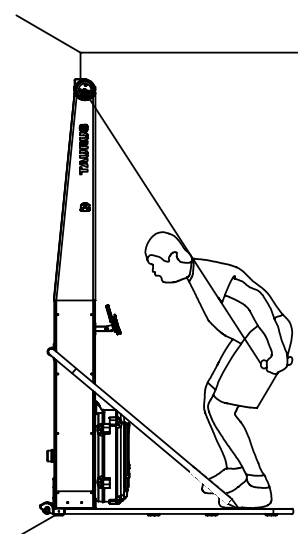

Fig. 23
5. Extend your arms along your hips and keep your knees bent. (Fig. 23).